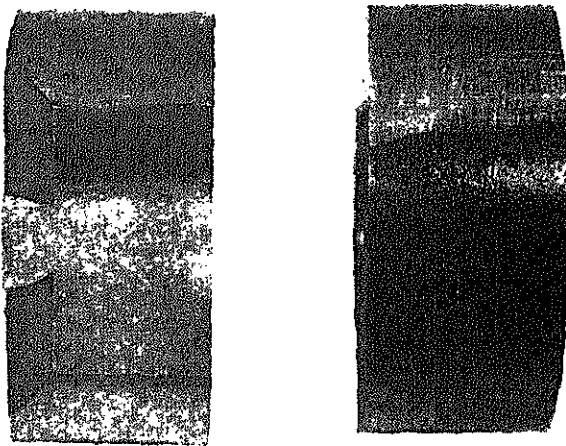

FIGURE 9-87.
d. Inspect the body and bearing for irregularities of the bore caused by bearing attempting to turn or signs of working. (see figure 9-87).